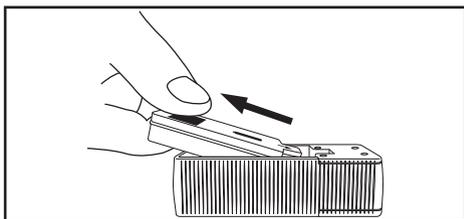

Figure 7
- b. Pull the battery in a straight line away from the Smart Charging Case connector (Figure 7).